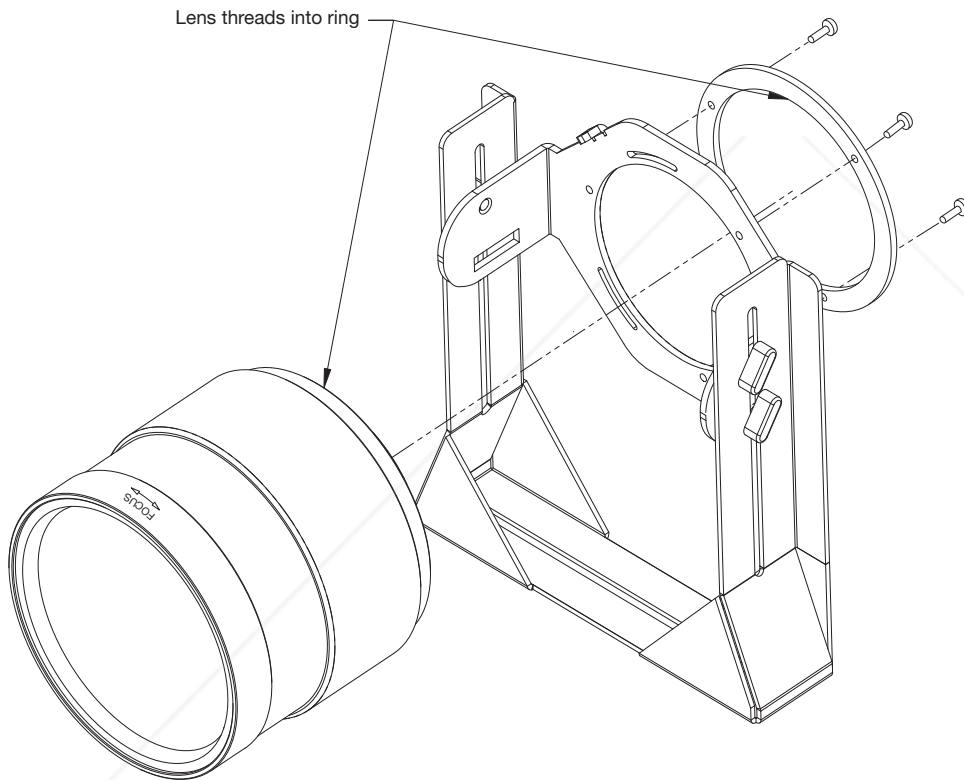

Figure 3-19. Attaching the Anamorphic Lens to the Lens Adapter Ring
4. Use the Lens Mounting Screws to attach the Lens Adapter Ring (item #1) to the Pitch Adjustment Yoke (item #2); see Figure 3-19. (Use the round, threaded holes on the yoke.)